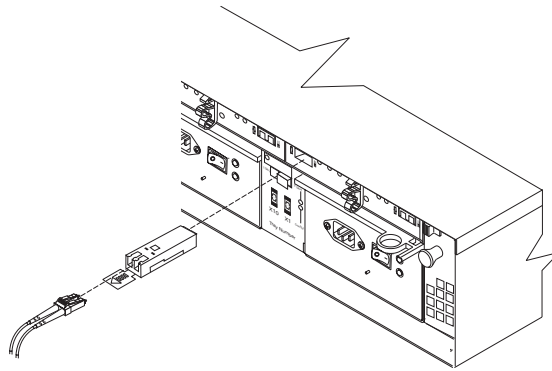

Figure 33. Installing an SFP module and connecting an LC-LC cable to the FASTt EXP700
4. Insert an SFP module into the SFP port located on the back of the FASiT EXP700; then, connect the other end of the LC-LC cable to the SFP module, as shown in Figure 33 on page 33.